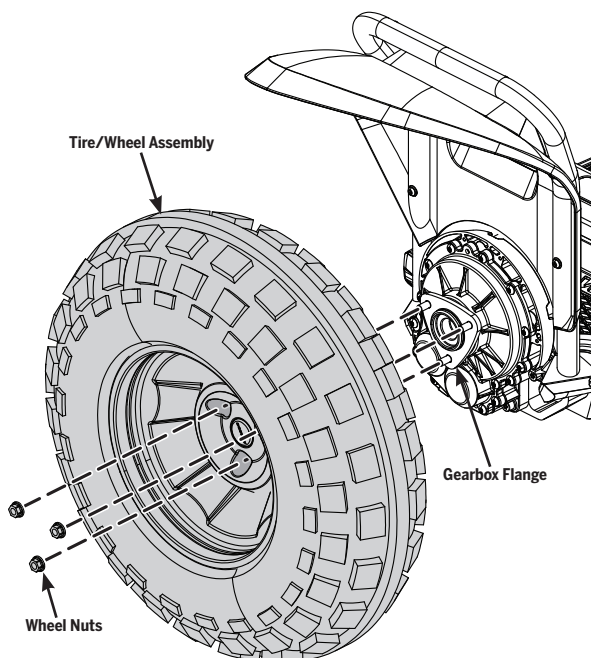

Figure 1: Tire/Wheel Assembly, x2 Version 2
3. Using a 13 mm socket wrench, remove the three wheel nuts and discard. See Figure 1.
3. Place the tire/wheel assembly on the gearbox flange. Figure 1.